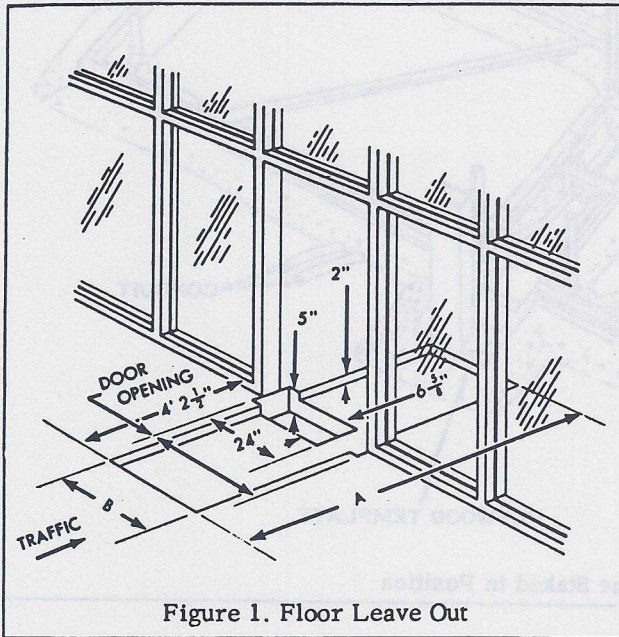

Figure 1. Floor Leave Out
1. It is recommended that the concrete floor be poured first with a floor leave-out (Figure 1) cast in the proper position. A shore box slightly larger than the recessed frame assembly can be constructed and staked into position before pouring the floor. If the recessed carpet frame cannot be installed by the shore box method, the threshold frame and recessed frame will have to be positioned with stakes (figure 2). Door jambs must be installed prior to installing the Dor-O-Matic recessed carpet frame.
2. Before securing the recessed frame assembly in the threshold frame, make sure the threshold frame and carrier case is properly positioned and level in both directions. Adjust the ends of the recessed frame assembly to the level of the floor. When installing the frame in a floor that will be tiled the surface of the floor should be level with the exterior as shown in figure 1. When installing the frame in a floor that will not be tiled, the surface of the floor should be level with the top surface of the recessed frame.